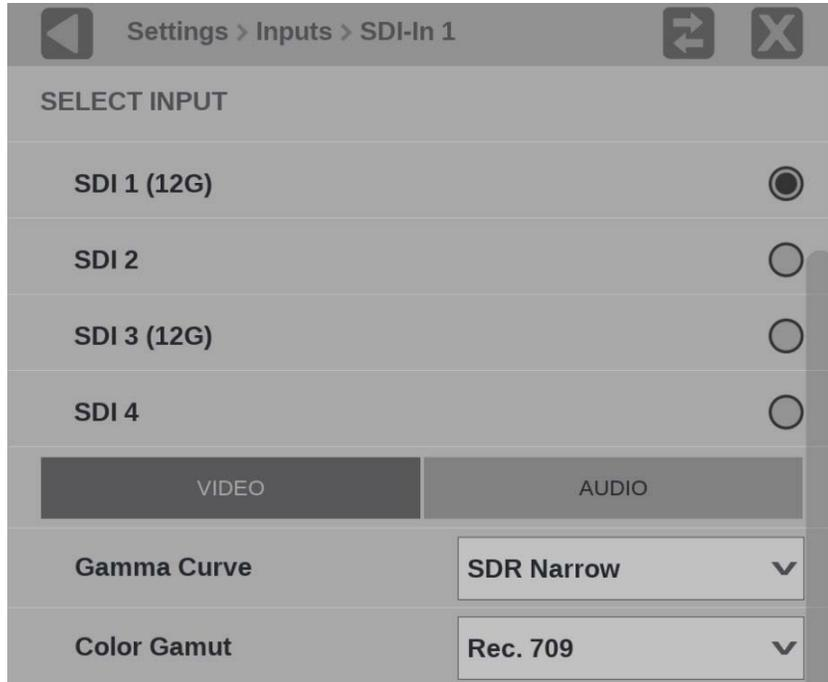

Figure 31: Video Signal Options
1. Select **Video**. (See Figure 31.)